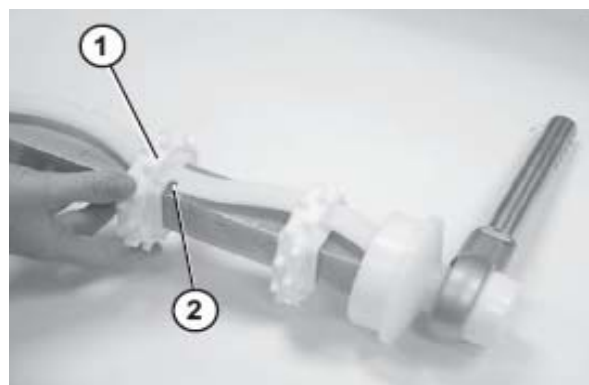

Figure 83
4. Install the remaining sprockets (**Figure 83, item 1**) making sure to position each sprocket with the next available notch (**Figure 83, item 2**) in the sprocket alignment bar.